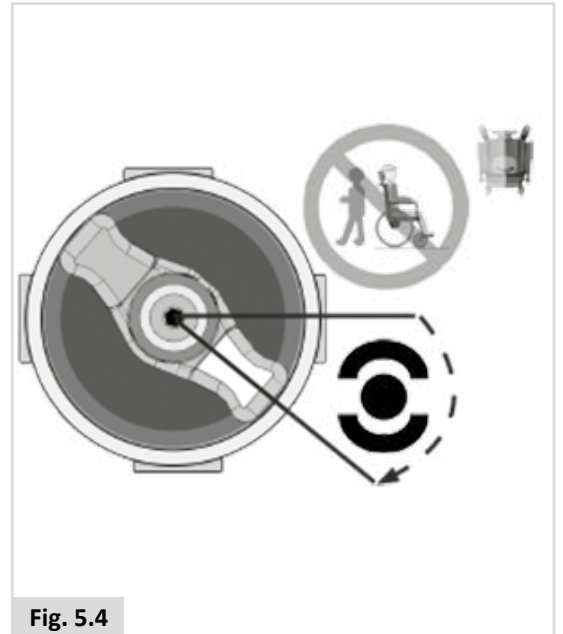
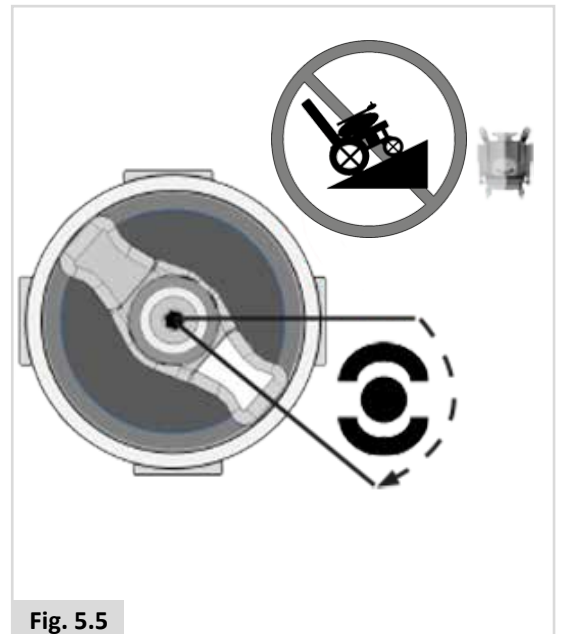

Fig. 5.4
Fig. 5.5
2. For disengaging the motors. (Fig. 5.4 - Fig.5.5).